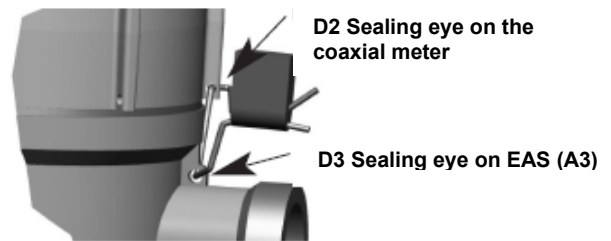

Fig. 5.2.3: Sealing example
7. Grease the thread of the coaxial meter (D) and screw it into the EAS until it comes to a firm stop on the EAS. Only use a hook wrench for this purpose.
8. Seal the coaxial meter together with the single-tube connector by pulling the enclosed sealing wire in one piece through the sealing eyelets on the measuring capsule (D2) and the EAS (D3), tighten it and secure it with the enclosed self-lock seal. Fig. 5.2.3